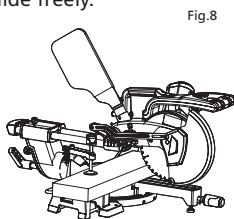

Fig.8
**SLIDE (push) CUTTING (cutting wide workpieces) (Fig. 8)**